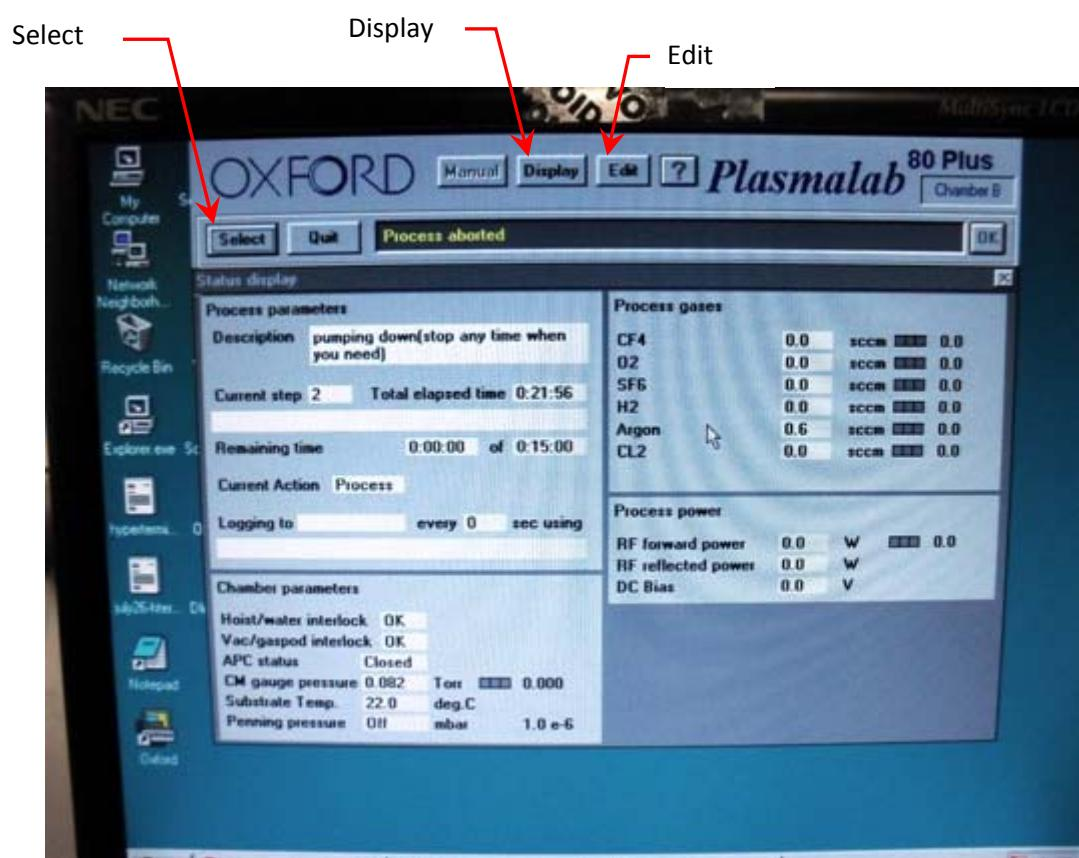

Figure 3, Oxford Toolbar
| Figure 3, Oxford Toolbar | 3 |
- 7.1.2.1 Click the Select button. See *Figure 3*.
- 7.3.1 Click Edit. See *Figure 3*.
- 7.4.1 Click Display button. See *Figure 3, Oxford Toolbar*.